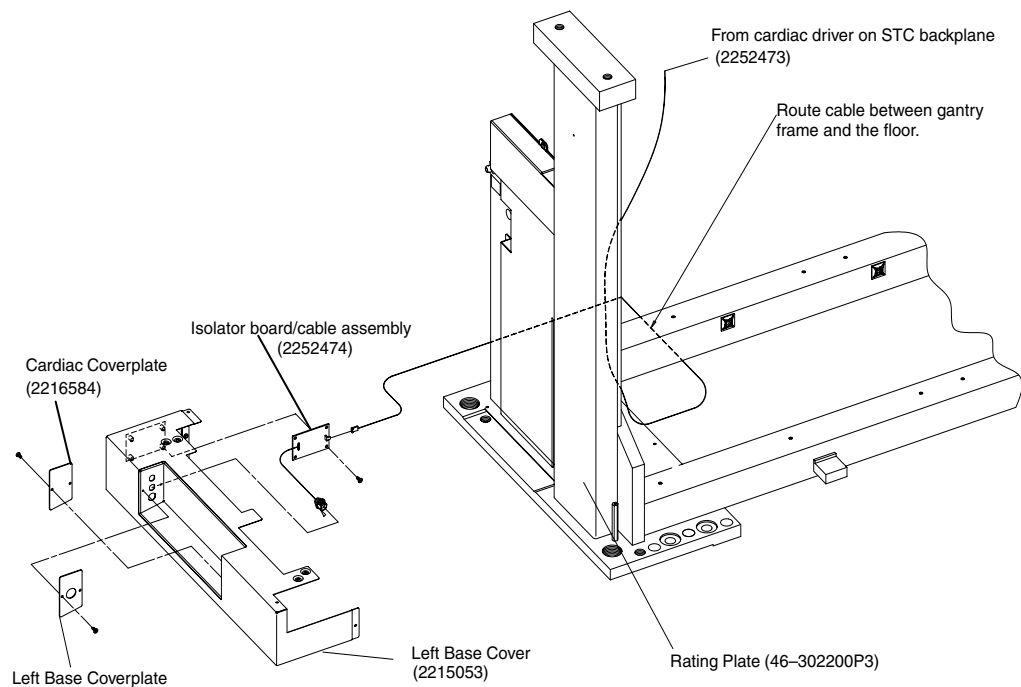

Figure 3-4 Route the Cardiac Cable In the Gantry Base
- 8.) Route the cable connector under the gantry base, next to the floor, to avoid interfering with the covers (refer to Figure 3-4).
- 1.) Attach the cable from the isolator board/cable assembly, 2252474, to the middle hole on the gantry base cover (refer to Figure 3-4). (If you attached the correct plate, you'll only see one hole.)